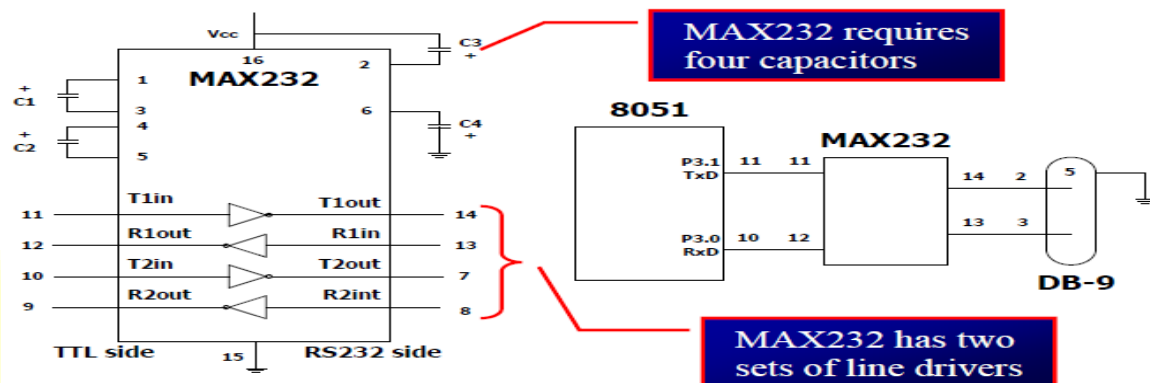

Fig 4.6.7: Connection diagram between MAX232, 8051 and RS232
- The typical connection diagram between MAX 232 and 8051 is shown below in fig 4.6.7